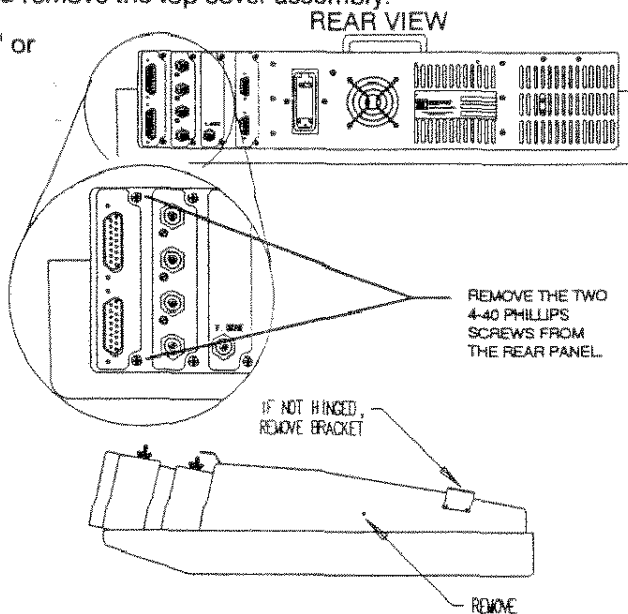

FIGURE 3-1. CPU MODULE REMOVAL/REPLACEMENT.
- STEP 4. Remove the two 4-40 phillips screws mounting the CPU module to the rear panel. Refer to Figure 3-1.
- STEP 5. Remove the single phillips screw securing the CPU module to the left side (as viewed from the rear) of the main chassis. Refer to Figure 3-1. NOTE: If not hinged, remove the left rear top cover mounting bracket.